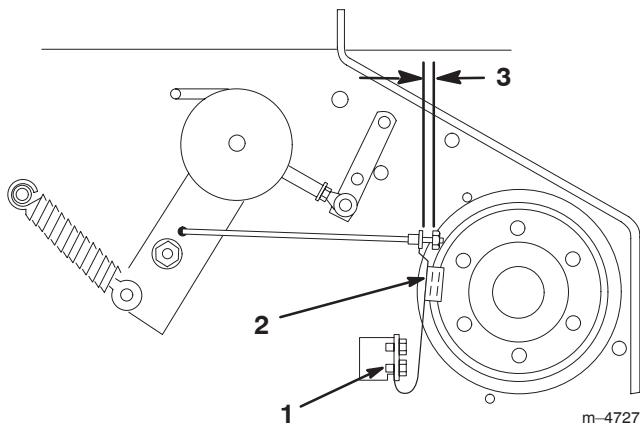

Figure 46
3. If necessary, adjust the spring mounting bolts so that the blade brake pad rubs against the pulley edges (Fig. 46).
4. Adjust the nut at the end of the blade brake rod until there is 1/8-3/16 inch (3-5 mm) between the nut and the spacer (Fig. 46).